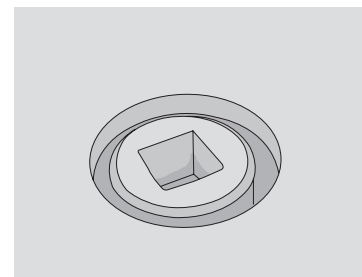
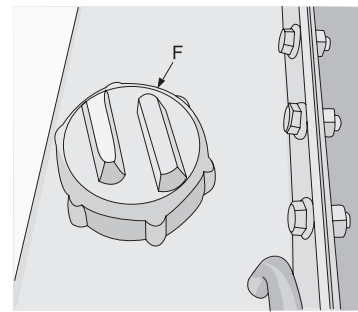

Figure 4-31
Figure 4-33
7. Hydraulic tank and filter(Figure 4-31-Figure 4-33)